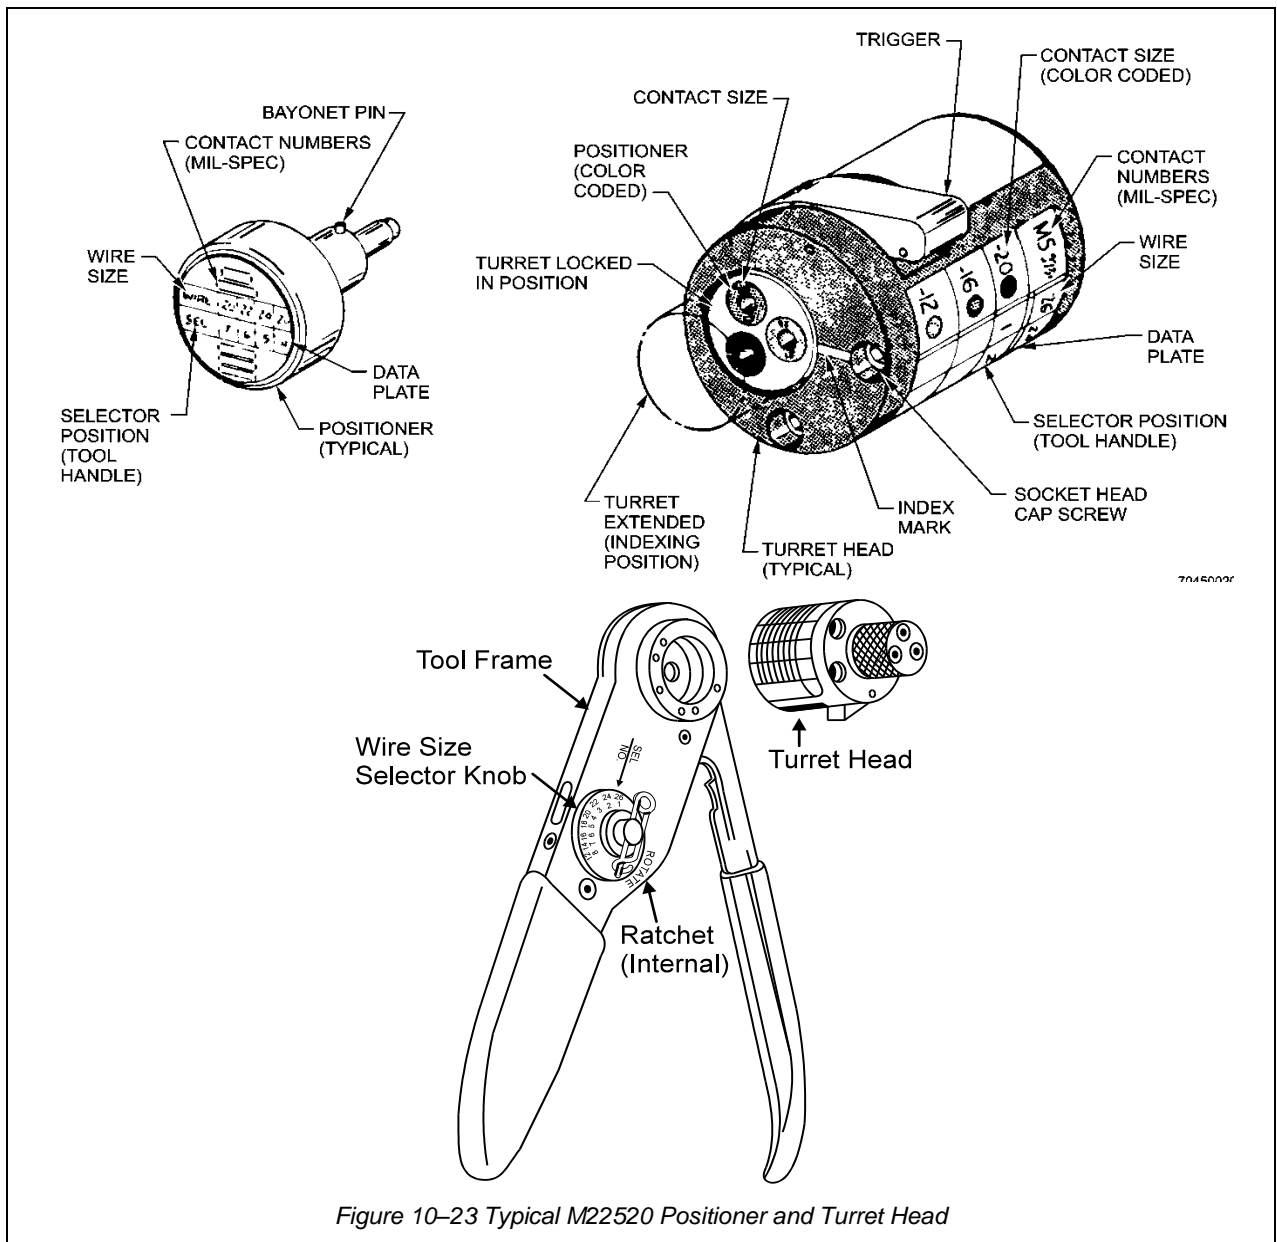

Figure 10-23 Typical M22520 Positioner and Turret Head
- b. If the head to be used is a turret head, first depress the turret trigger to release the turret portion to the indexing or extended position as shown in Figure 10-23.
- c. Place the head over the retaining ring on the back of tool (selector side) and seat against the tool body; secure the 3.5mm socket head screws with Allen wrench (see Figure 10-23). If the positioning head is the single positioner type, omit steps d. and e.
- e. Rotate the turret until the correct positioner is lined up with the index mark on the turret head and push the turret in until it snaps into the locked position (see Figure 10-23).